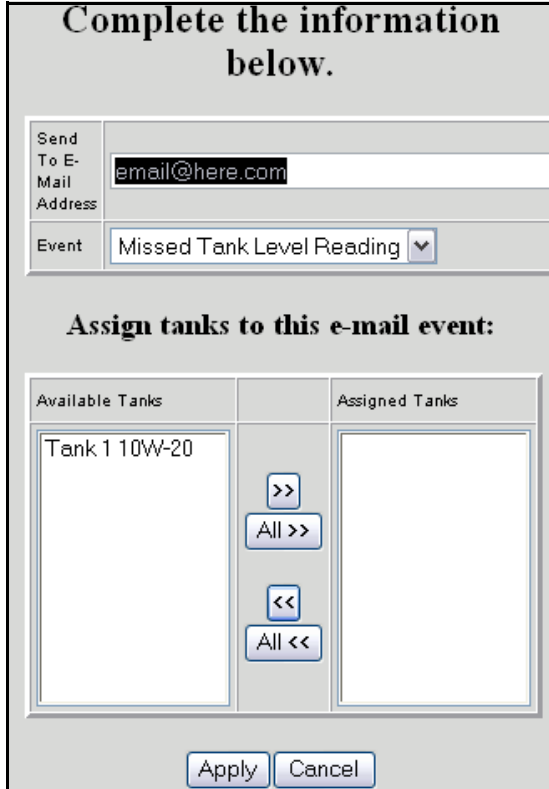

FIG. 57 Modifying E-mail
4. Assign Tanks to this e-mail Event: Click and highlight the tank(s) that you wish to send, then click the (>>) right arrows. The tank(s) will be moved to the assigned tank column. Click **Apply**. See FIG. 57.